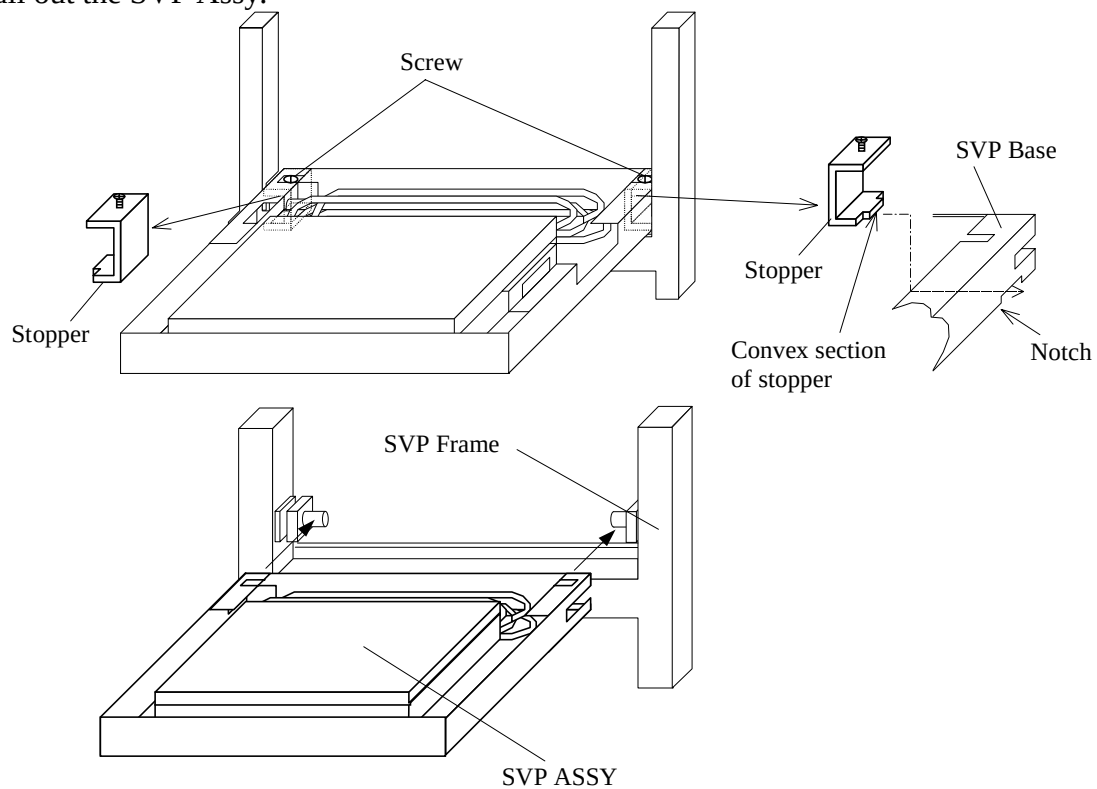

Fig. 3.18-12 Removing and installing the SVP Assy
- a. Install the SVP to the SVP ASSY and attach the SVP stoppers with screws. (See Fig. 3.18-12.)